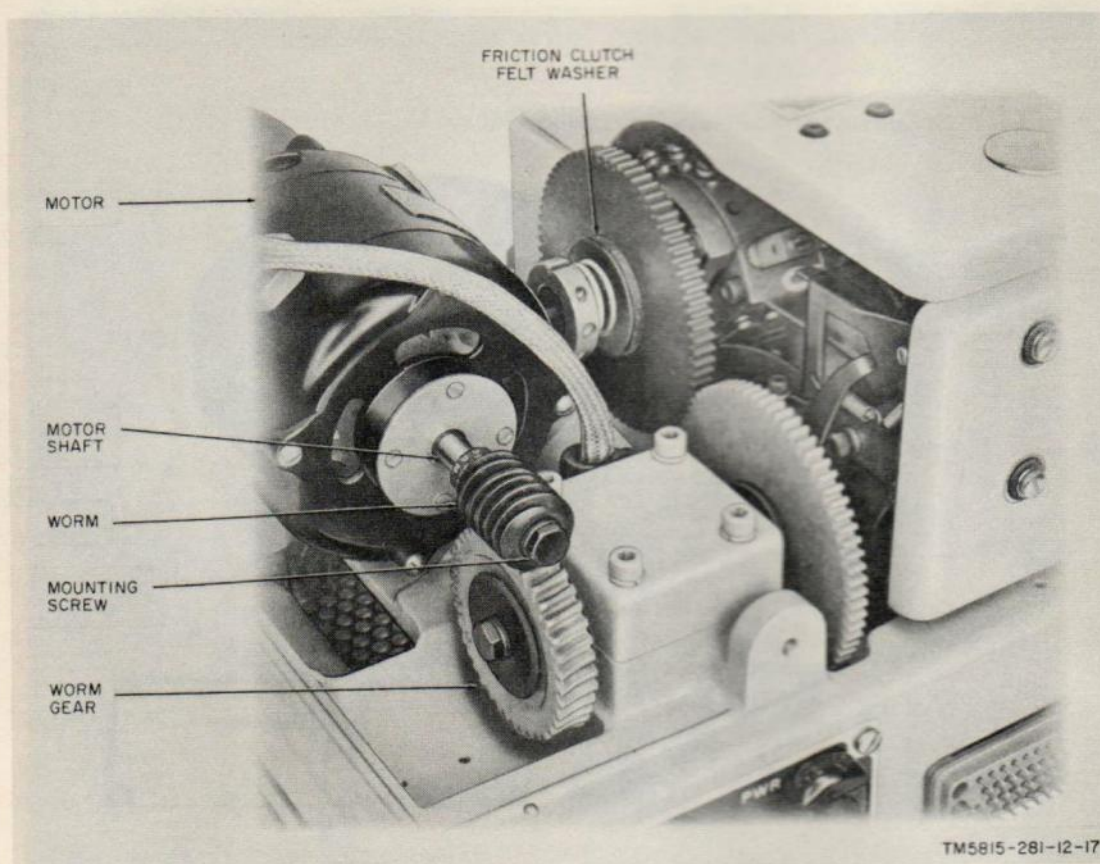

Figure 17. Friction clutch assembly and drive gear set.
b. *Lubrication.* Remove the three shoulder screws that secure the motor dust cover on the transmitter; remove the dust cover. Apply 10 to 15 drops of oil on each felt washer (fig. 17) in the friction clutch assemblies. Wipe off any excess oil with a cloth.
27. Changing the Operating Speed (fig. 17)